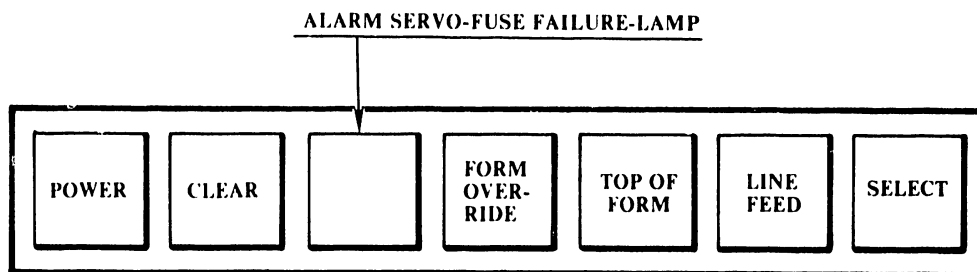

FIGURE 2-5 PRINTER'S FRONT PANEL
- 2) Depress the SELECT switch on the printer's front panel (see Figure 2-5).
#### 3.1.1 CONTROL PANEL (REFER TO FIGURE 2-5)